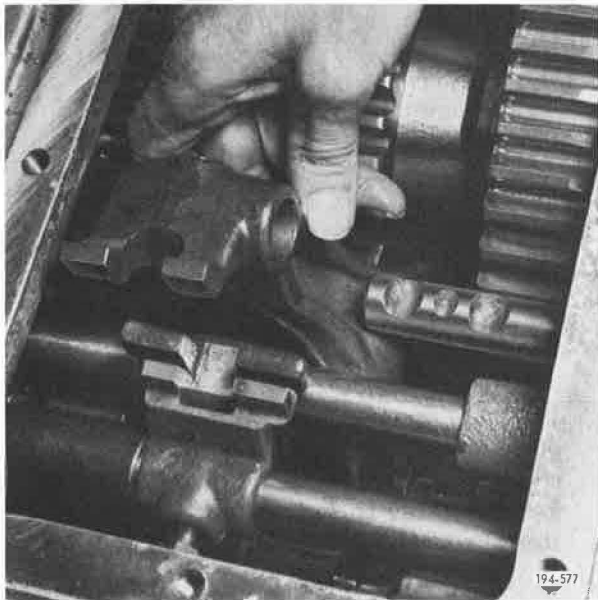

Figure 5-985. Installing Shift Rail
16. Slide fourth/fifth speed shift rail through front of case, into and through hub of fourth/fifth speed shift fork, into intermediate bore of case, until rail reaches neutral position. See Figure 5-985.